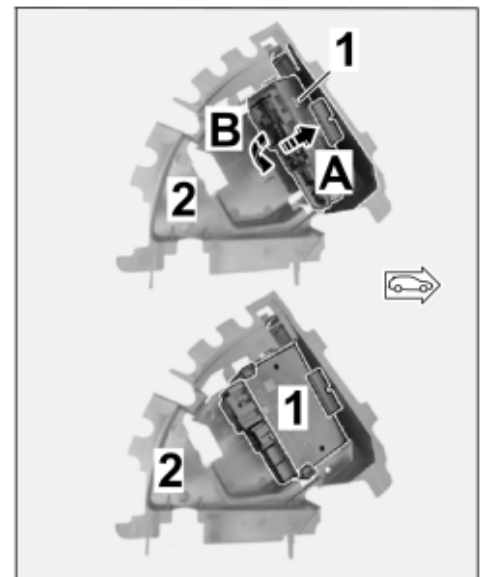

Figure 13
2.4.5 Install the trailer hitch control unit in the bracket (⇒ Figure 13).